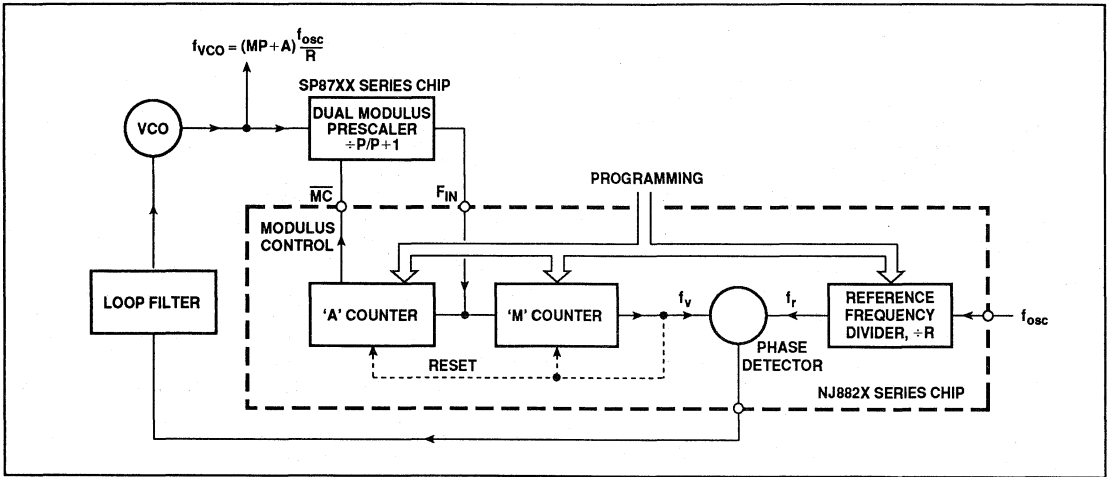

Fig. 4 Multi-modulus division. The NJ8823, NJ88C24 and NJ88C28 have non-resettable counters for faster loop lock-up times; see individual data.
The multimodulus divider system, shown in Fig. 4, is significantly less complicated. It is built up from a number of blocks.
3. A programmable 'M' counter which is clocked in parallel with the 'A' counter. In most of the NJ882X series, the output of the 'M' counter resets both itself and the 'A' counter (see Fig. 4).